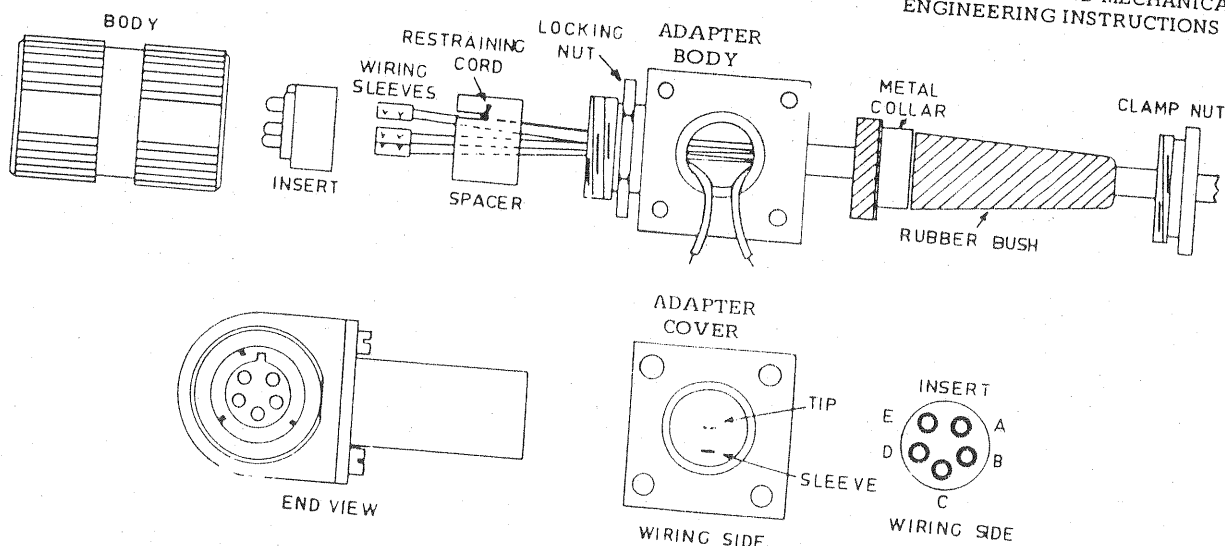

FIG 2 — FIVE PIN PLUG WITH ADAPTER
31. **Microphone Cable and Adapter.** The cable plug is similar to that used on the handset, except that an adapter for the headset plug is mounted at the rear, between the body of the connector and cable clamp. The adapter carries a socket into which the miniature plug on the headset cable is inserted. The arrangement is shown in Fig 2 and the wiring connections are listed in Table 2.